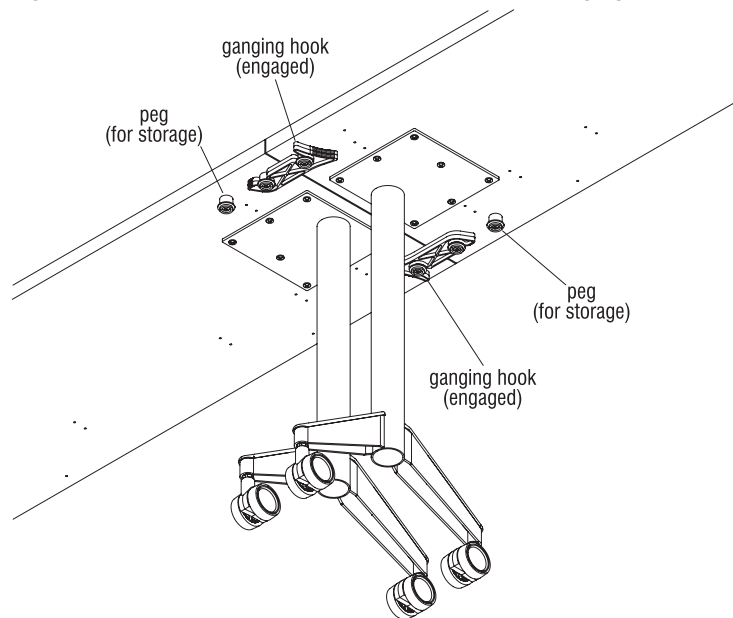

Figure 7 - 18" Wide Fixed-Base Tables with Side-to-Side Ganging
3. Move tables together and swing the ganging hooks of each table around and engage the pegs of the opposite table, ganging the tables together (Figure 7).
4. When tables are un-ganged, simply swing each ganging hook around and snap it onto the peg installed for storage (Figure 7).